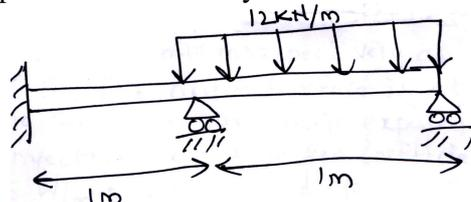

Fig.Q5(b)
- b. For the beam and loading shown in Fig.Q5(b). Determine the nodal slopes and the deflection at the midspan of the uniformly distributed load. Take $E = 200 \text{ GPa}$ and $I = 4 \times 10^6 \text{ mm}^4$.